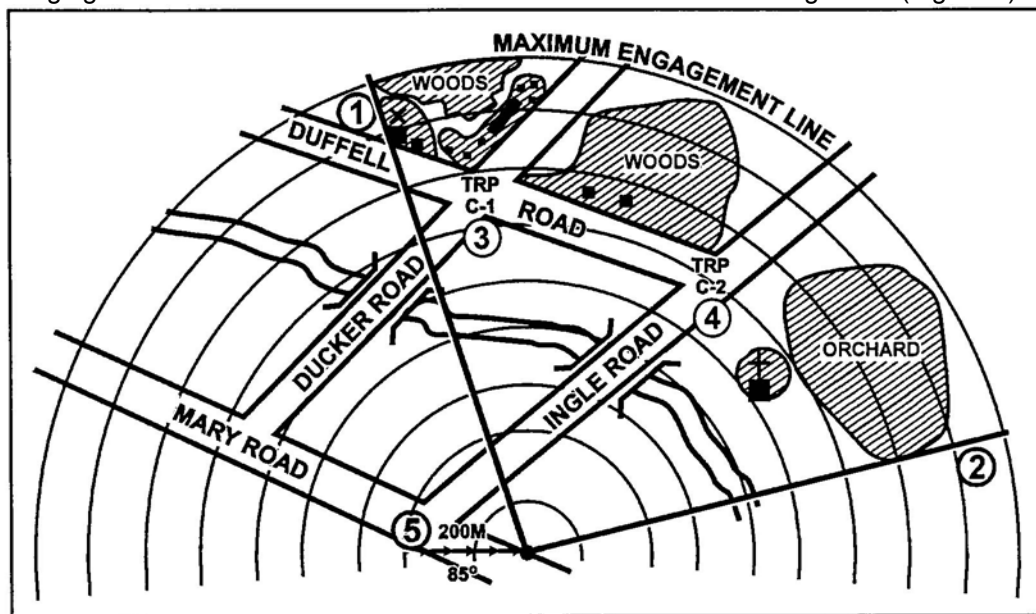

Figure 7. Gunner reference point.
- f. Weapon reference point. Draw this as a line with a series of arrows. Extend the arrows from a known terrain feature. Aim the arrows at the weapon symbol. Number the WRP last-assign it a 6-digit grid. If there is no terrain feature to use as a WRP, show the weapon's location as an 8-digit grid coordinate and write it in the REMARKS block on the range card (Figure 7).